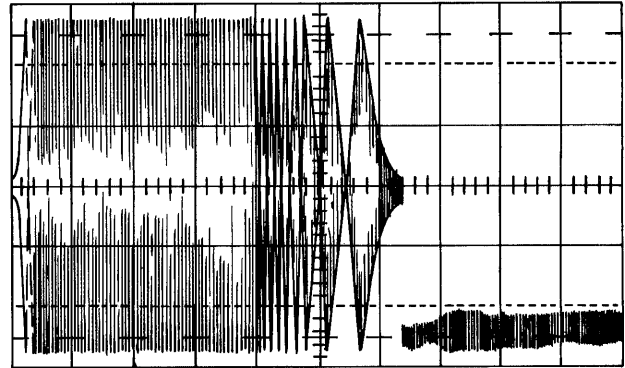

Figure 2-15. Cylinder Transducer Output, 203 Cylinder Seek
- a. Check velocity for 65 milliseconds from beginning of seek operation to GTDATN/ time (Refer to Figure 2-15).